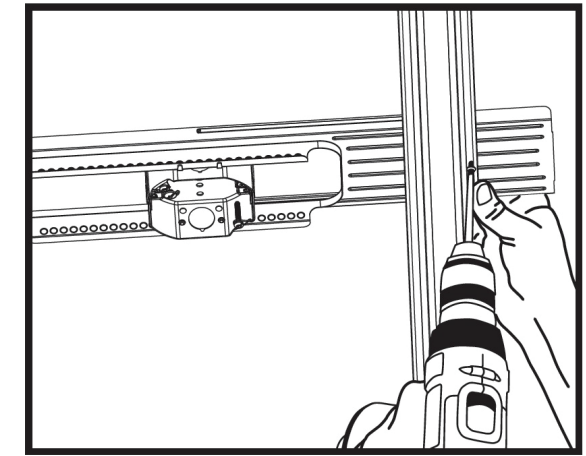

Figure 4
6. Fasten the other end of the support by screwing through the channel and the furring channel (Figure 4).